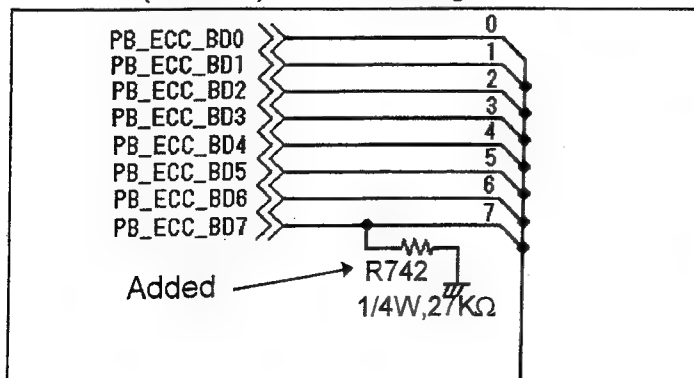

Fig. 3 Page 2-105 (F-2)
- 2). Add a resistor R3742 (1/4W, 27K Ω) between C3264 and land (A portion) on the component side as shown in figures 3 and 4.